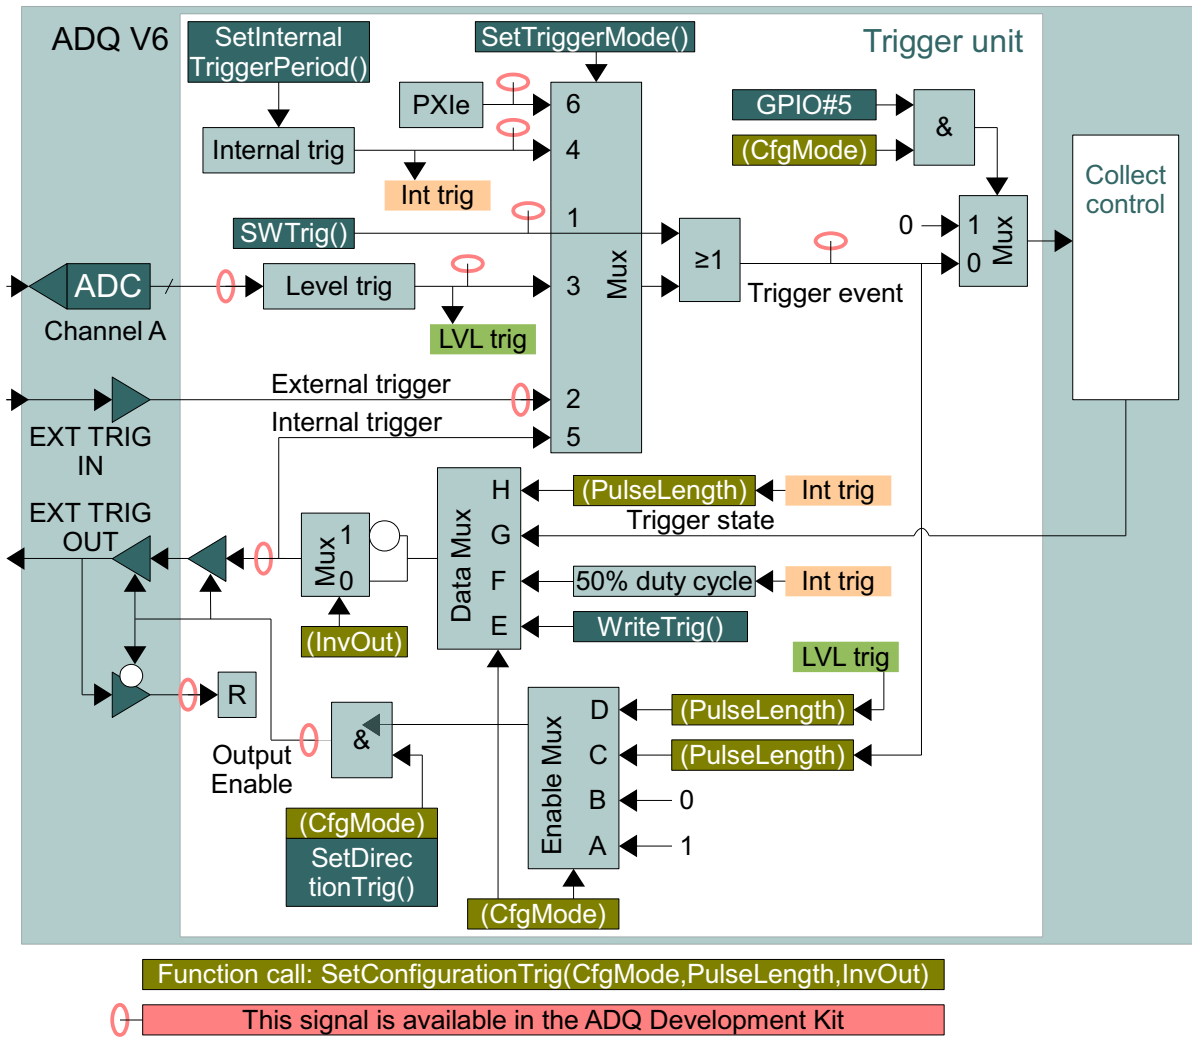

Figure 4: Trigger in ADQ V6
**Table 2** lists the function call to SetConfigurationTrig() and refer to **Figure 4**. The parameter CfgMode controls the trigger output set up and the input trigger blocking function on GPIO#5. The parameter PulseLength is the pulse length for some functions as indicated in **Table 2** and **Figure 4**. The parameter InvOut is inverting the trigger output.
**ADQ V6 family specific:** The output and input triggers are physically separated to two different connectors. The the direct path from trigger out to trigger in is instead available as an internal connection in the FPGA by selecting trigger mode 5, Figure 4.